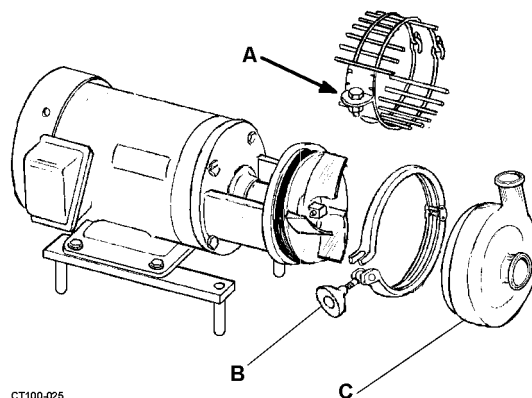

Figure 14 - Casing Assembly
4. Using a wrench remove the seal guard assembly (See Figure 14 item A).
6. Inspect clamp saddles and the casing for damage or wear and replace if necessary. (See Figure 14 item B and C).